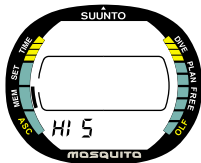

Fig. 5.8. Dive History Memory.
1. In the Memory Mode [MEM], press **S** two (2) times to select the Dive History Memory Mode (Fig. 5.8.). The HIS text appears at the bottom of the display to indicate the selected mode.